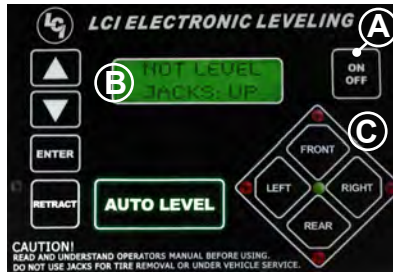

Fig. 2 - Touch Panel
1. Push touch panel "ON/OFF," Fig. 2(A) to turn system on. LCD Screen lights up, Fig. 2(B).
NOTE: Orange arrow lights, Fig. 2(C) may come on, indication the current disposition of the unit, in this case the FRONT and RIGHT sides of the unit are low.